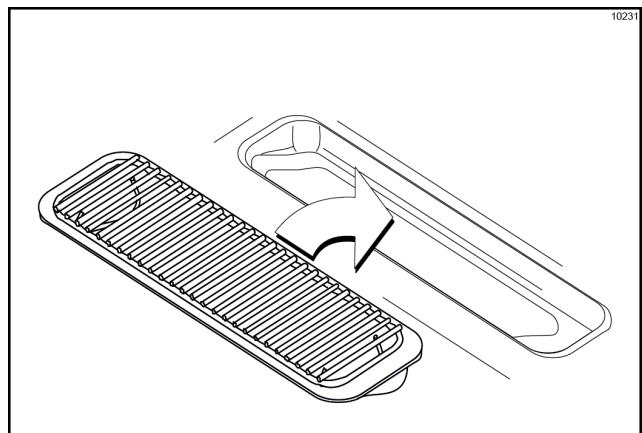

Figure-143
18. Install the front drip tray and splash shield under the door spouts. (See Figure-143.)